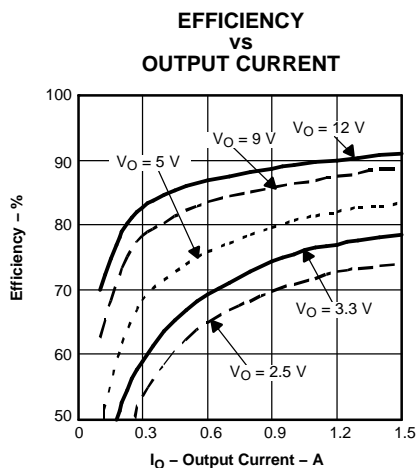
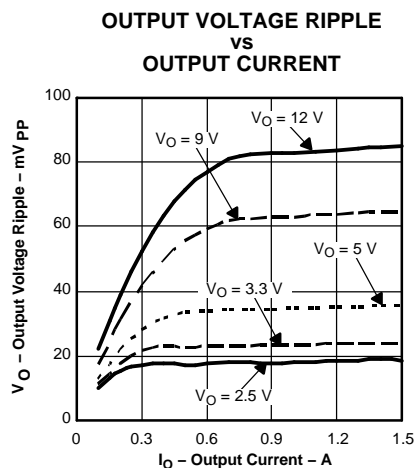
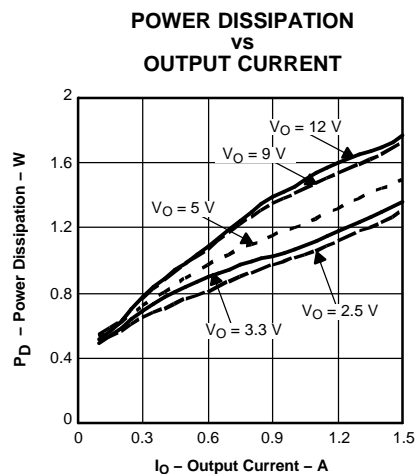

Figure 10.
Figure 11.
Figure 12.
- (5) The electrical characteristic data has been developed from actual products tested at 25°C. This data is considered typical for the converter. Applies to Figure 10, Figure 11, and Figure 12.